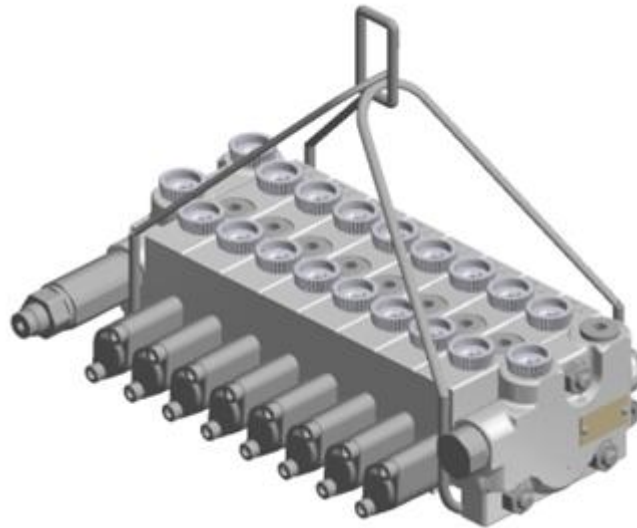

Fig. 5-1 Example of Using Sling
- Step 5** Attach the slings to the product's main body as shown in Fig. 5-1, and confirm that it is securely fixed.